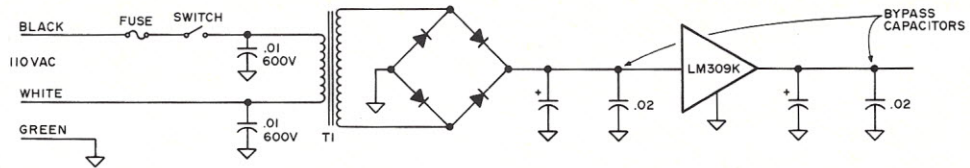

Fig. 3. More of the fix.
2) Added bypass capacitors (shown in Fig. 3) to the power supply transformer's primary and at the output of the rectifiers and LM309K (5 volt) regulator — which, once again, helped a little.